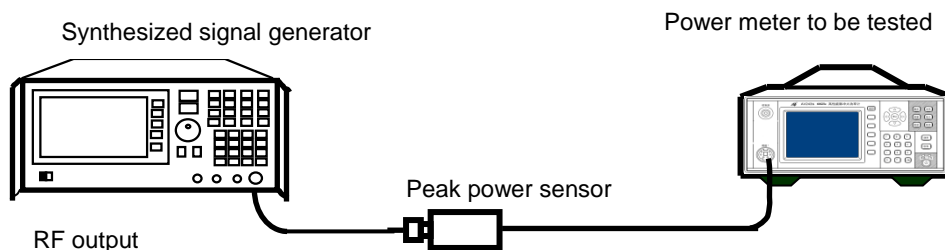

Fig. 8.1 Power Meter Rising Time Test Block Diagram
- 1) Warm up the instrument for at least 30 min. After automatic calibration of the 2438PA/PB microwave power meter connected to a 81702X peak power sensor, connect the device as shown in Fig. 8.1.